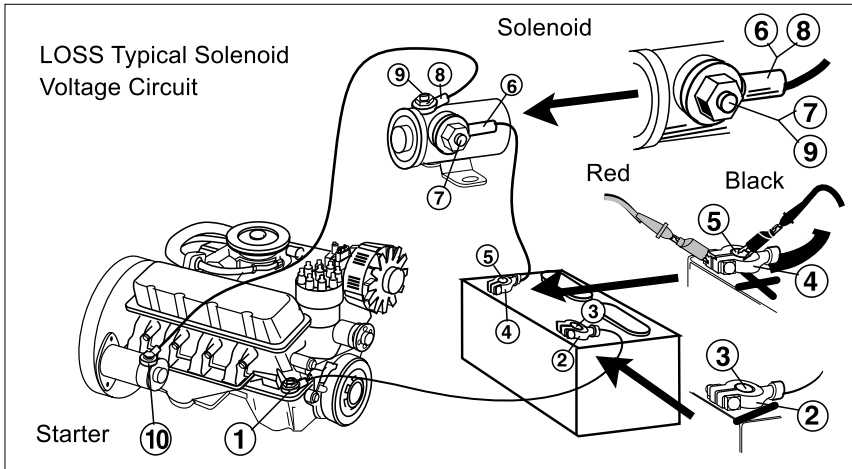

Figure 15
3. Refer to the LOSS typical trigger voltage circuit. (See figure 15)